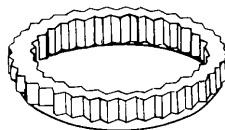

Figure 2-74. Lockring
**2-15. Lockring Fastener.** The lockring, as shown in figure 2-74, is an accessory part used as an anti-rotation device for screw thread inserts, studs, and many other externally threaded fastening devices. It is serrated both internally and externally. The internal serrations are configured to mesh with those on the insert flange. The external serrations are relieved on the entering side so as to form a pilot to permit initial engagement internally. In addition, there is a 10-degree rake angle on the external serration so that the effect of a broach is duplicated when the ring is pressed or driven into the counterbored region in the receiving material. The crest of the serrations cuts a series of longitudinal grooves, thus creating a composite shear area for resistance to rotation, as shown in figure 2-75.